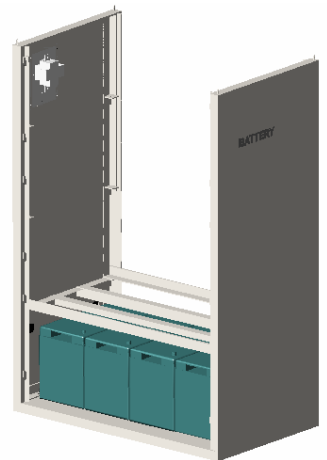

Fig. 9
Step 4. Assemble the second layer separator, as shown in Fig. 9.